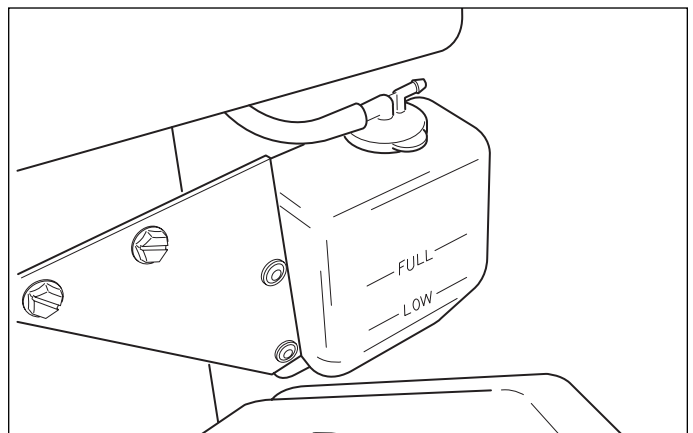

Figure 8. Radiator Expansion Tank
3. Check the coolant level in the radiator overflow bottle (Figure 8). If coolant level is low, add coolant until level is at the "FULL" line. Proper coolant mix is a 50/50 mixture of ethylene glycol and distilled water. See engine owners manual for antifreeze specifications.